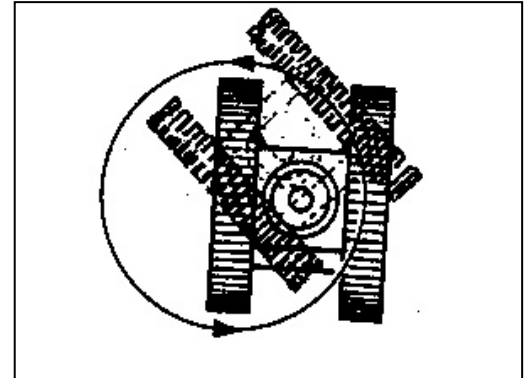

FIG.3-13
- Turn left (FIG. 3-13): Push right handle 2 forward and pull left handle 1 backward.